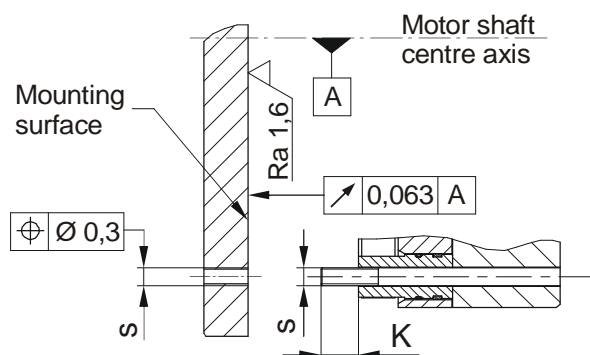

Fig. 5
- On hub designs (Type 8012._1_ _3), the hub bore (10) tolerances and the shaft must be selected so that the hub toothing (10) is not widened. Widening of the toothing leads to the rotor (3) jamming on the hub (10) and therefore to brake malfunctions. Recommended hub - shaft tolerance H7/k6. If the hub (10) is heated for better joining, the O-ring (11) must be removed beforehand and re-mounted after hub installation. The max. permitted joining temperature of 200 °C must not be exceeded.
- Dimensioning of the key connection according to the requirements shaft diameter, transmittable torque and operating conditions must be carried out. For this, the corresponding user data must be known or the customer must carry out the dimensioning according to the valid calculation basis DIN 6892. For the calculation, a hub quality of $Re = 300 N/mm^2$ should be used. The length of the key should lie over the entire hub (10).
- The mounting dimensions and the screw-on surface s with depth $K + 2$ mm ($K =$ screw projection) acc. Catalogue or applicable assembly drawing must be given (Fig. 5).